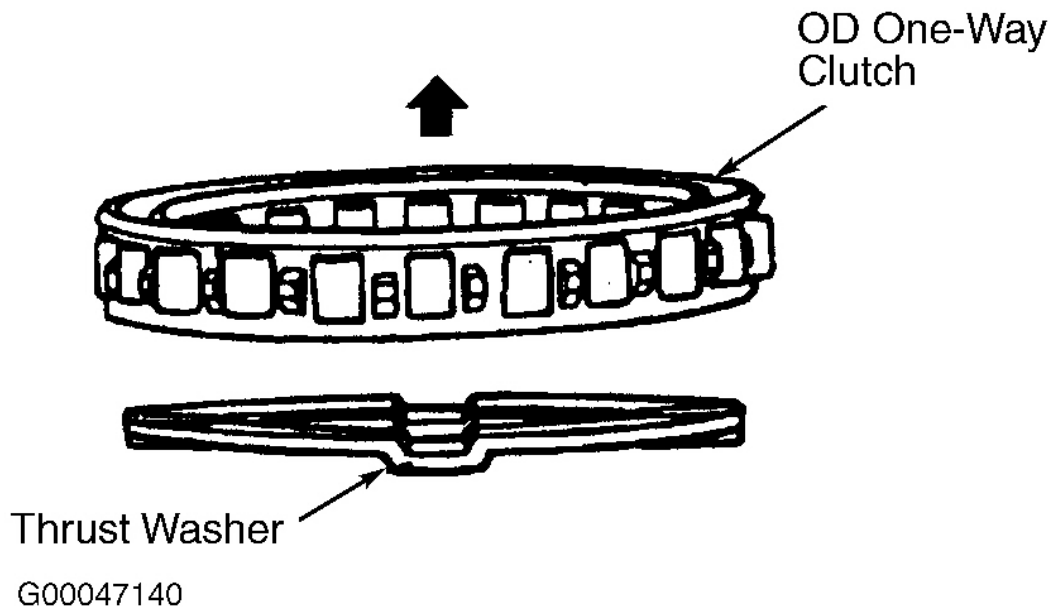

Fig. 22: Locating OD One-Way Clutch & Thrust Washer
1. Install thrust bearing into OD planetary gear set. Install thrust washer with grooved side facing upward and install OD one-way clutch into outer race with flange side of OD one-way clutch facing upward. See **Fig. 22** . Install retainer and snap ring onto OD one-way clutch.